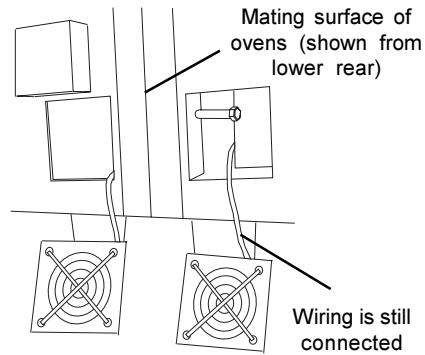

Figure 2-8 - Cooling Fan Removal
3. Remove the rear axial cooling fans that are adjacent to the mating sides of the ovens. The fans may either be completely disconnected, or left attached by their wiring as shown in Figure 2-8.
8. Replace the rear axial cooling fans. See Figure 2-8.